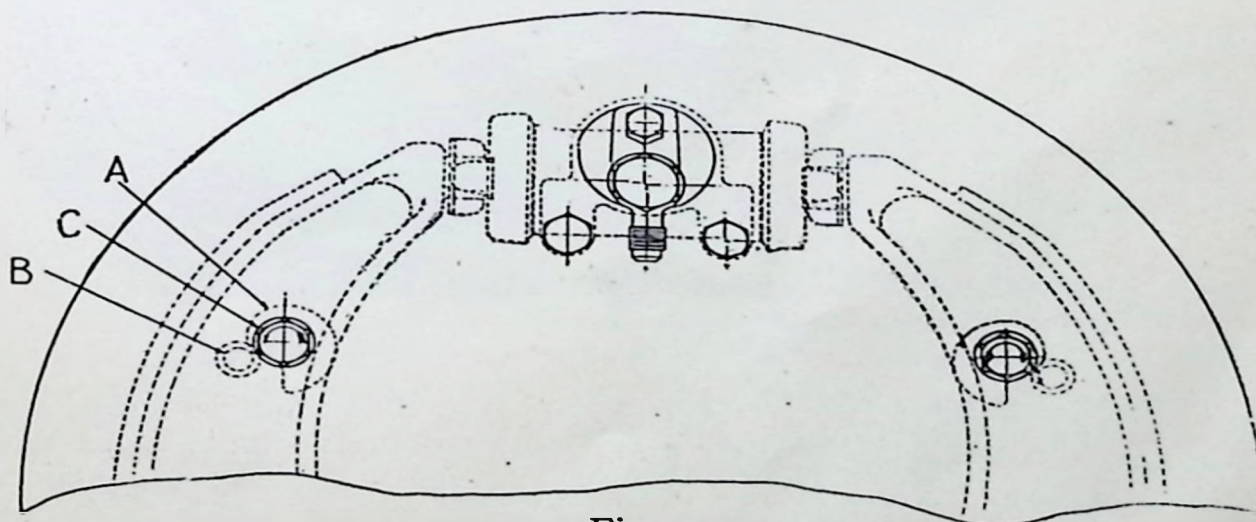

Fig. 5
car on a jack until the wheel is free. Adjustment is made by rotating the adjustment cam (A, Fig. 5) against a stop pin (B) on the shoe. Rotate the adjustment nut (C) with a wrench, until brake shoe comes into contact with drum. Then back off adjustment slightly, until the wheel rotates freely without any appreciable drag.